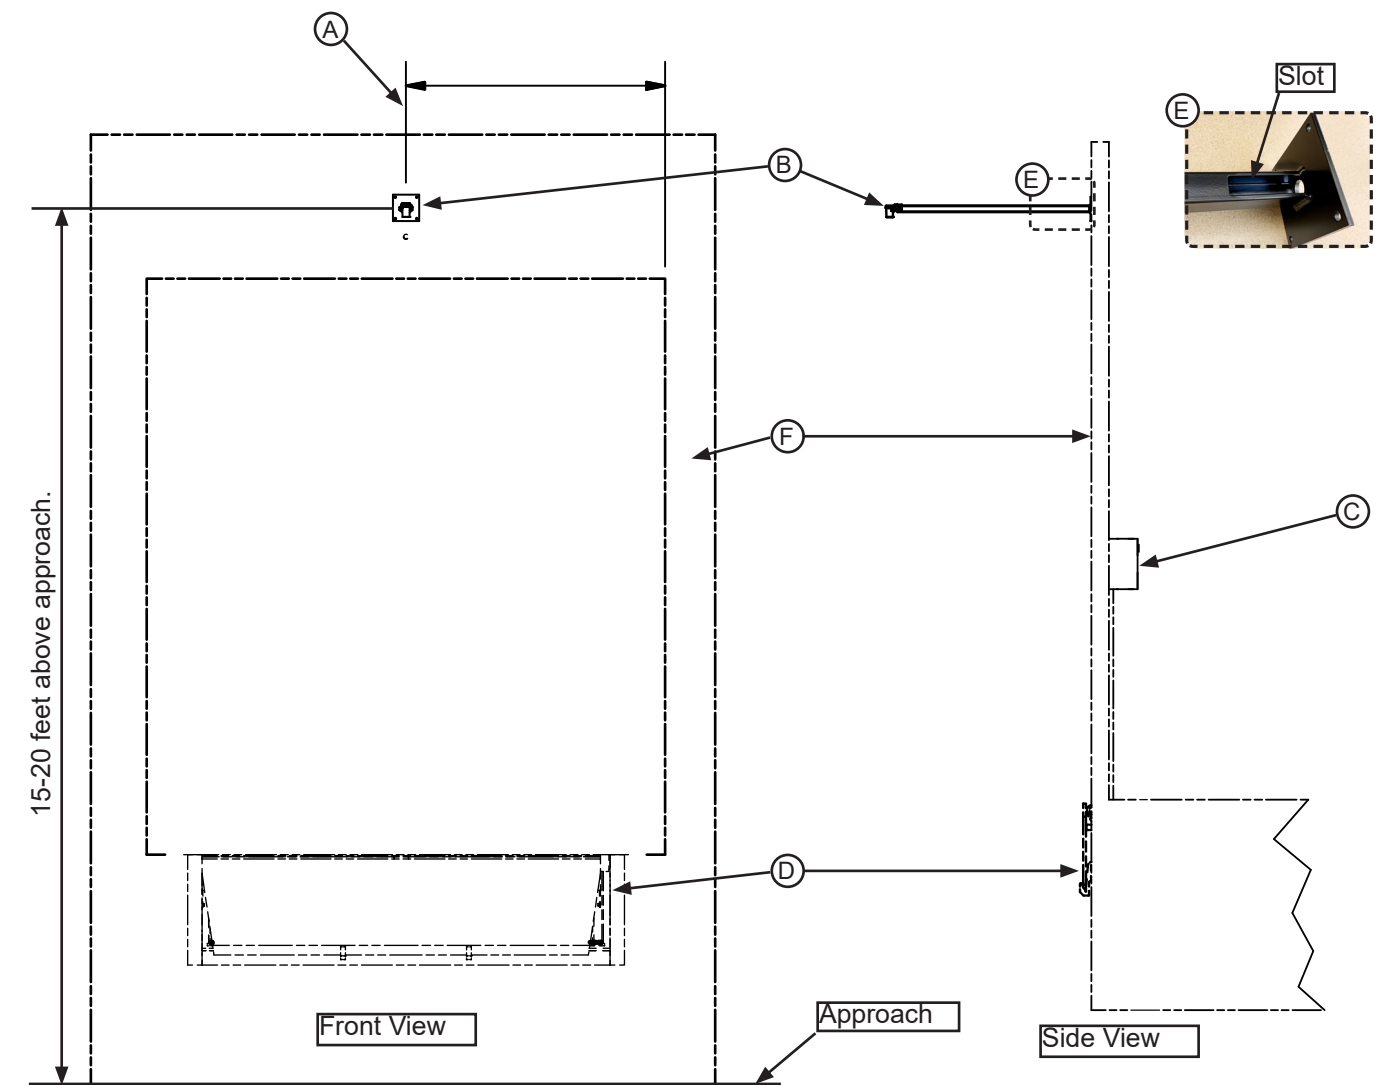

Figure 1
1. Locate the center line (A) above the door opening. The mounting bracket (B) can be mounted up to 12" off center to avoid obstructions. See **Figure 1**.
2. Mark a location for the mounting bracket based on the centerline, that is 15-20' above the approach. Ensure the area can be drilled for mounting hardware and for the sensor cable. Inspect the inside and outside of the wall, to determine an appropriate path for the cable to reach the iDock (C). (Using a wall scanner to avoid re-bar or embed plates is recommended.)